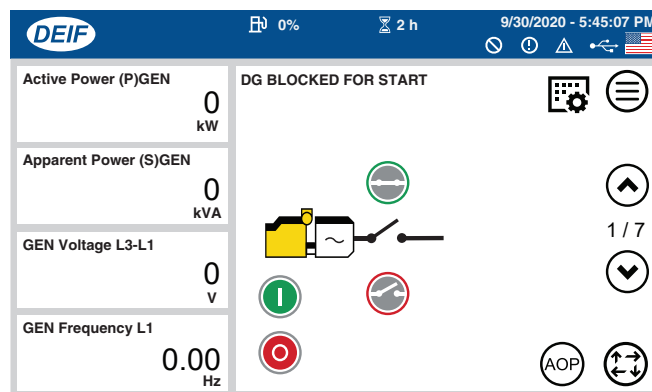

Figure 160. Home Screen (1 of 7)
- Verify that the **Home** screen (1 of 7) is displayed. See Figure 160.